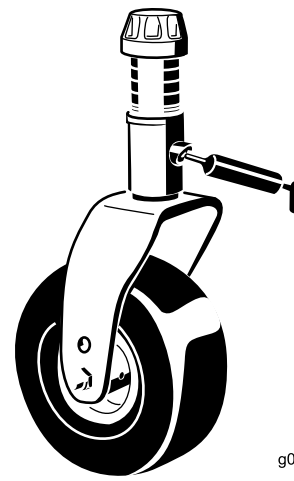

Figure 40
- Castor-fork-shaft bushing (1) (Figure 40)
- Idler-arm-pivot bushing (1)